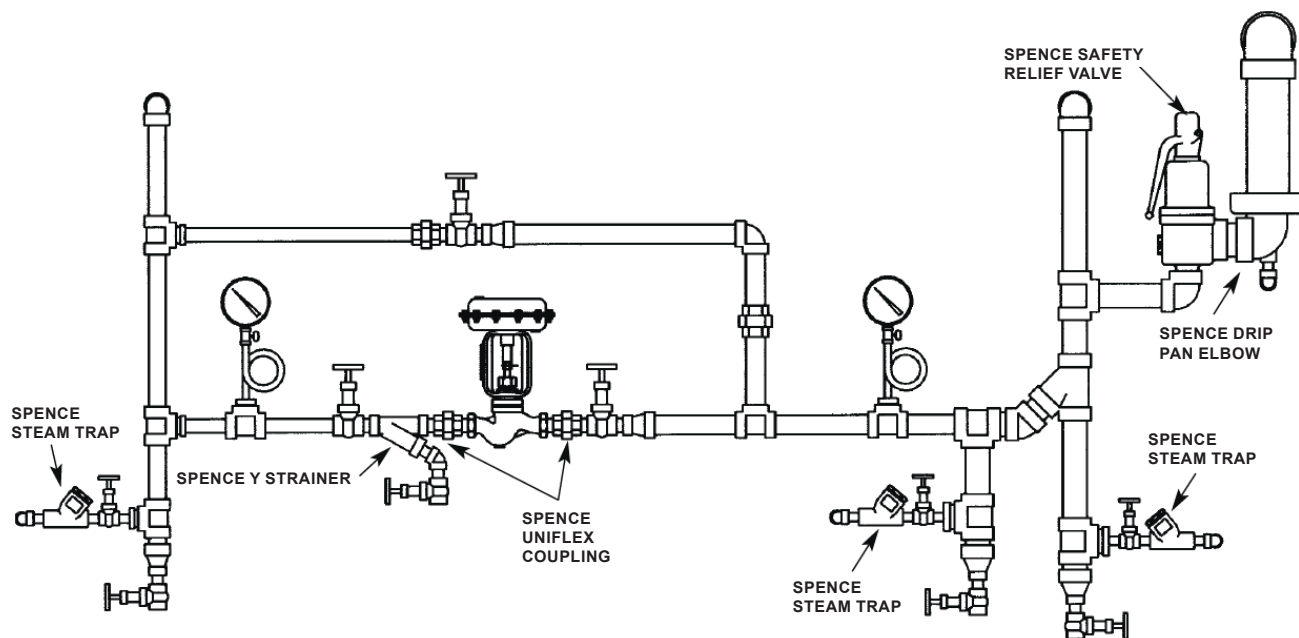

Figure 3. Type J Control Valve Recommended Installation for Steam Application
- Locate the valve in a straight run of horizontal pipe as shown in Figure 3. Mount the valve with the actuator in the upright position. Allow room for removal of the actuator.